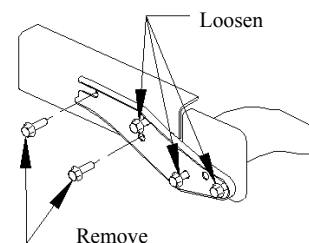

Figure 2
①	Qty. (4)	Conical Washer, 1/2"	③	Qty. (4)	Spacer
②	Qty. (4)	Hex Bolt, M12 x 40 x 1.25
2. Referring to Figure 2, remove two (2) of the existing M12 hex washer bolts from the bumper bracket as shown, and loosen the other three (3) bolts. Do this on both sides.